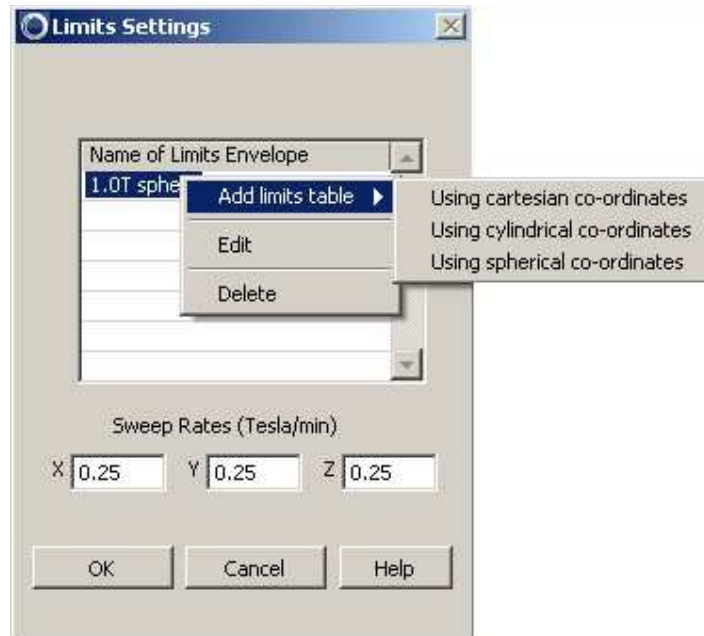

Figure 9 Limits settings dialog (limits file can be edited)
- In order to edit the limits file, click  to give the Limits dialog that allows editing of the Limits file, as shown in Figure 9.
Each magnet can be swept at 0.25 Tesla/minute so the limits dialog resembles that given in Figure 9.
Limits may be subsequently edited or deleted by clicking  or , as shown in Figure 9.